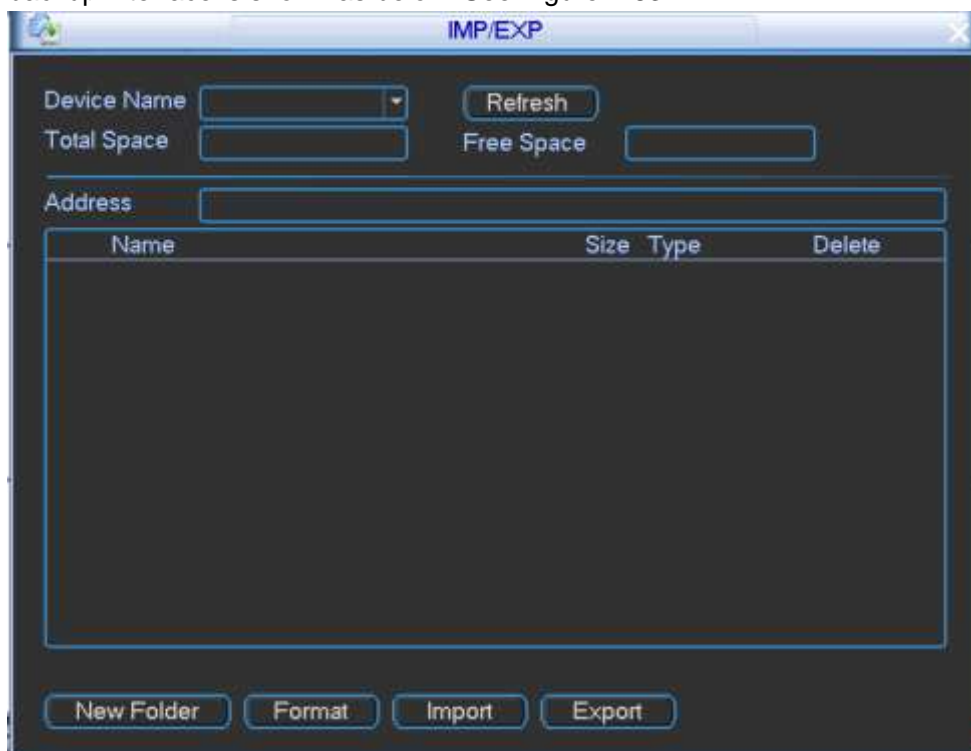

Figure 4-83
Step 1 From Main menu->Setting->System->Import/Export, you can see the configuration file backup interface is shown as below. See Figure 4-83.